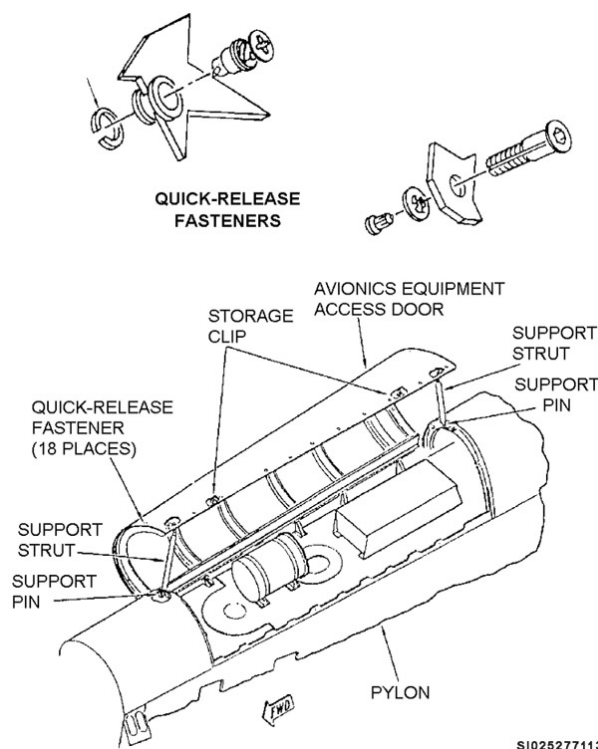

Figure 2-3. Avionics equipment access door.
Pylon avionics are made up of a relay assembly and a decoder-receiver (DR). The avionics equipment is under the forward leading edge of the pylon. An avionics access door (fig. 2-3) allows you to work on these items and replace hardware items inside the pylon. Eighteen CAMLOC quick-release fasteners secure the door in the closed position. Support struts on the forward and aft ends of the door hold them in the open position.